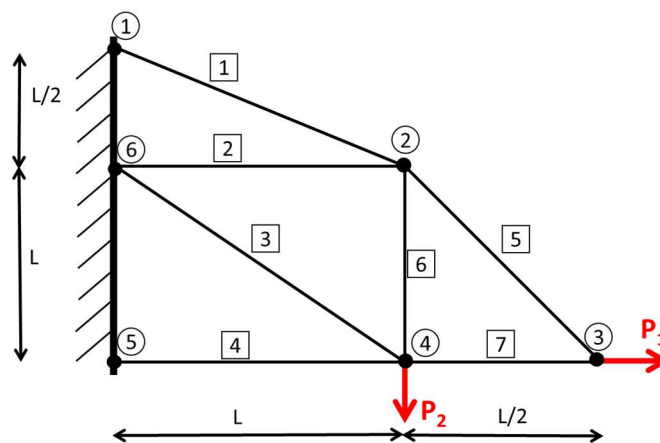
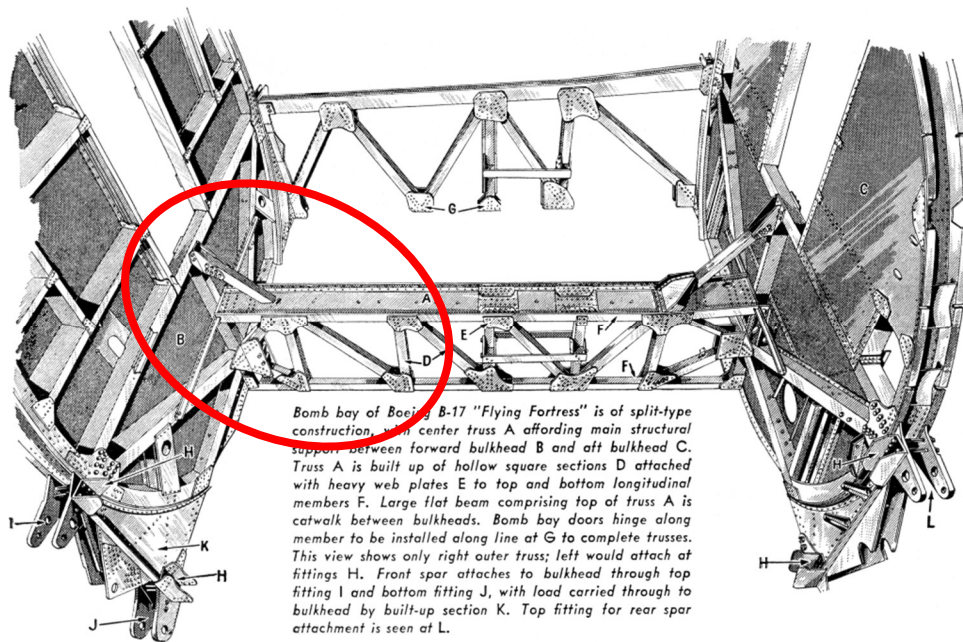

Figure 1: verification case to use for this assignment
Figure 3: B-17 walking path with the support structure highlighted for reference
As a verification case, please use the structure shown in Figure 1 that you should build in Python/Matlab and Abaqus. The node numbers are in circles, the element numbers in squares. Note: the vertical line on the left indicates a boundary condition, there are no elements between nodes 1 and 6, or 6 and 5. This example can be seen as a scaled-down version of the support structure of the walking path in the B-17, shown in Figure 3.
1. Complete the code given in the assignment: change the input values to the values of the problem shown in Figure 1 and program all functions. Please do not change the names of the variables in the input file or the output printed out.